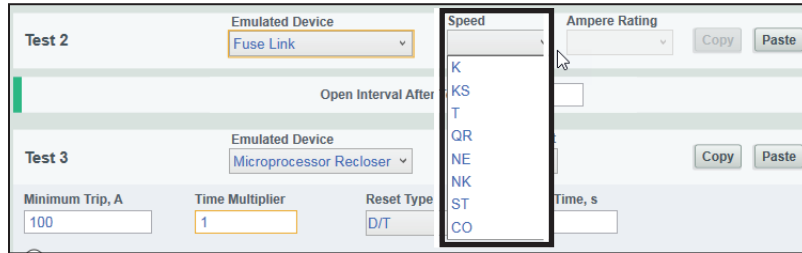

Figure 97. The Speed pull-down menu.
**Speed.** Select the fuse link speed from the list in the **Speed** pull-down menu. See Figure 97.